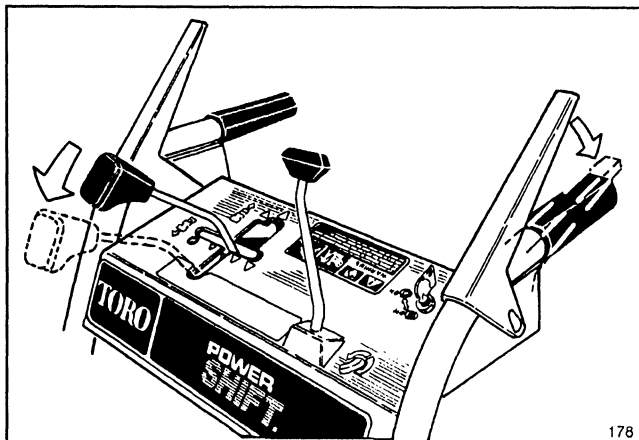

Figure 18
2. To move wheels to front or rear position, move shift control fully forward to Power Shift position and hold (Fig. 18).
3. Fully engage traction drive lever to move wheels into alternate position (Figs. 18 & 19).